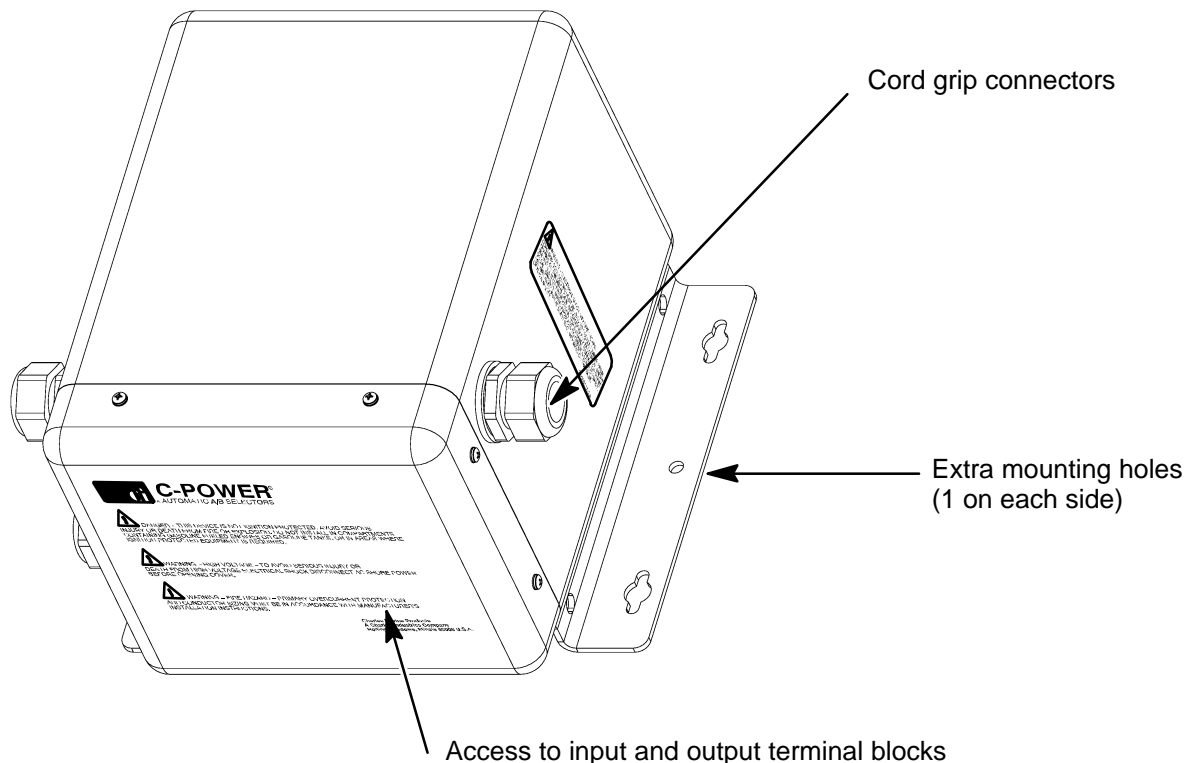

Figure 1. A/B Selector Access Openings
4.	(optional) For extra protection, mount 2 extra screws through the holes in the base plate (see Figure 1).